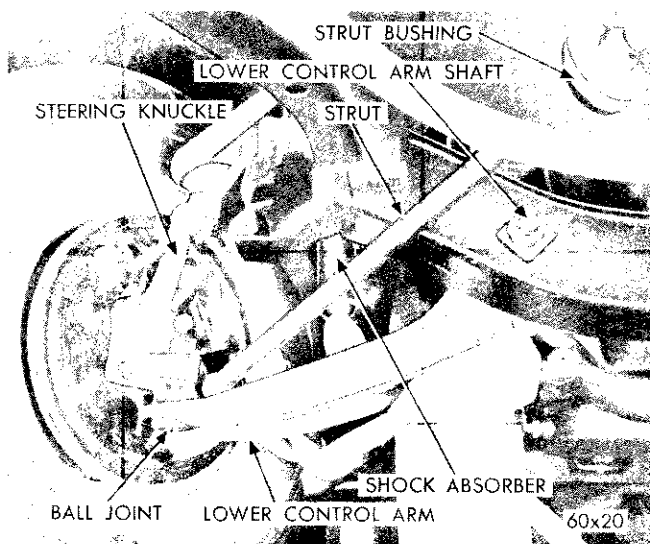

Fig. 12—Lower Control Arm Mounting
(1) Screw the ball joint squarely into the control arm as far as possible by hand.
(2) Using Tool C-3560, or C-3561 according to model indicated as above, tighten until the ball joint housing is seated on the control arm. Tighten to a minimum of 125 foot-pounds torque.
(3) Slide the seal and dust cover up into position over the stud, then position the stud in the steering knuckle. Install the washer and nut. Tighten to 100 foot-pounds torque on Models PC-1, PS-1 and PS-3. Tighten to 135 foot-pounds torque on Models PC-2, PC-3 and PY-1 and install the cotter pins.
(4) Install the lubrication fitting and lubricate the ball joint, using a good grade of heavy duty chassis lubricant.
(5) Reinstall the wheel and tire.
16. LOWER CONTROL ARM AND SHAFT (Fig. 12)